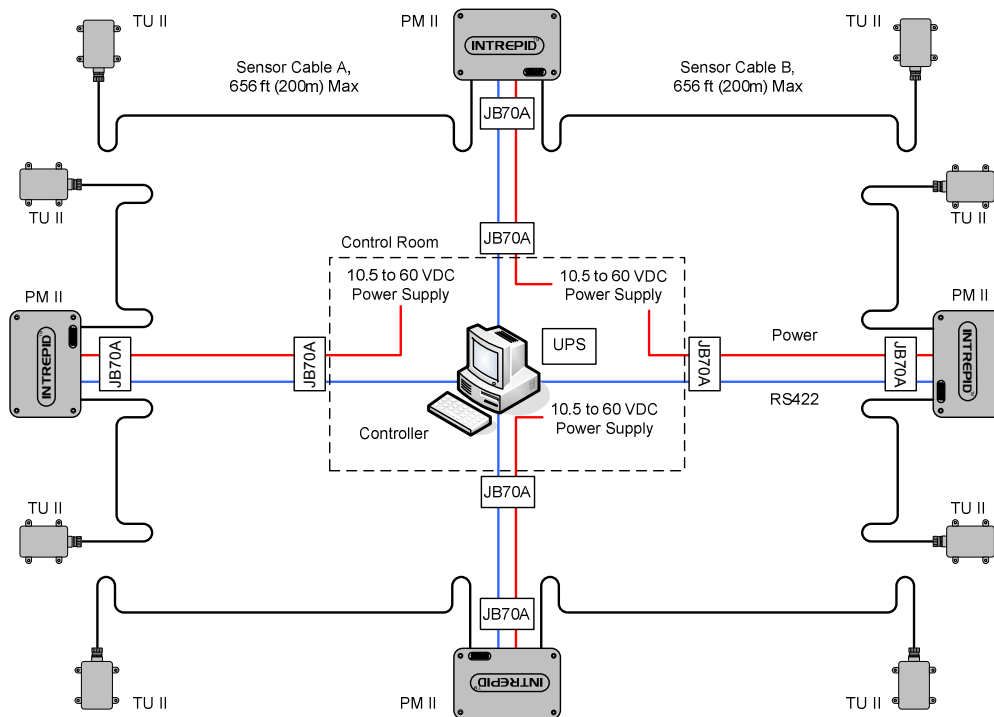

Figure 3.4 – Multiple PM II System using Star Configuration
Figure 3.4 shows the system using a “Star” configuration for power and data. This is the most secure configuration as each PM II has a dedicated power and data communications connection. A GCM II is used as the controller in this example.
Using a RCM II, four (4) would be required for the configuration as shown in Figure 3.4. If more PM II systems are used each would require a RCM II for this type of configuration.
Using a CM II, two (2) would be required for the configuration as shown in Figure 3.4. If more PM II systems are used every two (2) would require a CM II for this type of configuration.